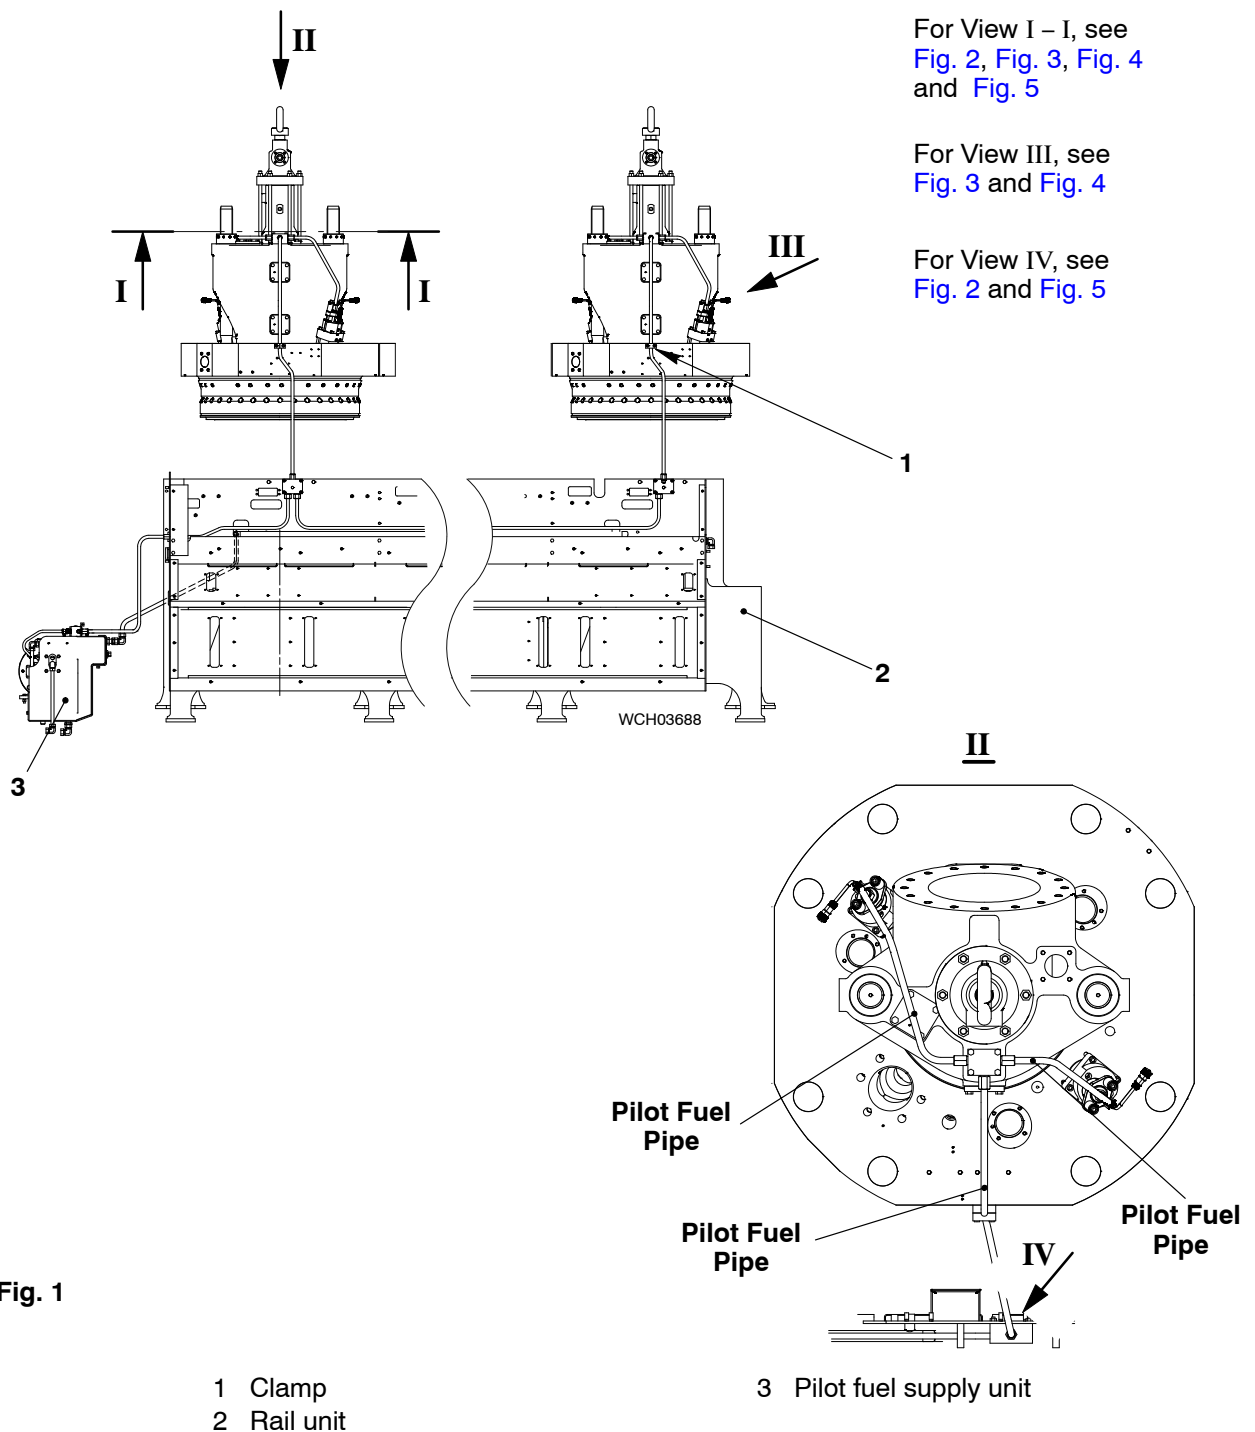

Fig. 1
- 1) If applicable, install the insulation (2, Fig. 1) to the HP fuel pipes (3).
- 2) Install the clamps (1).
- 3) Make sure that the pilot fuel supply unit (3, Fig. 1) is set to off.